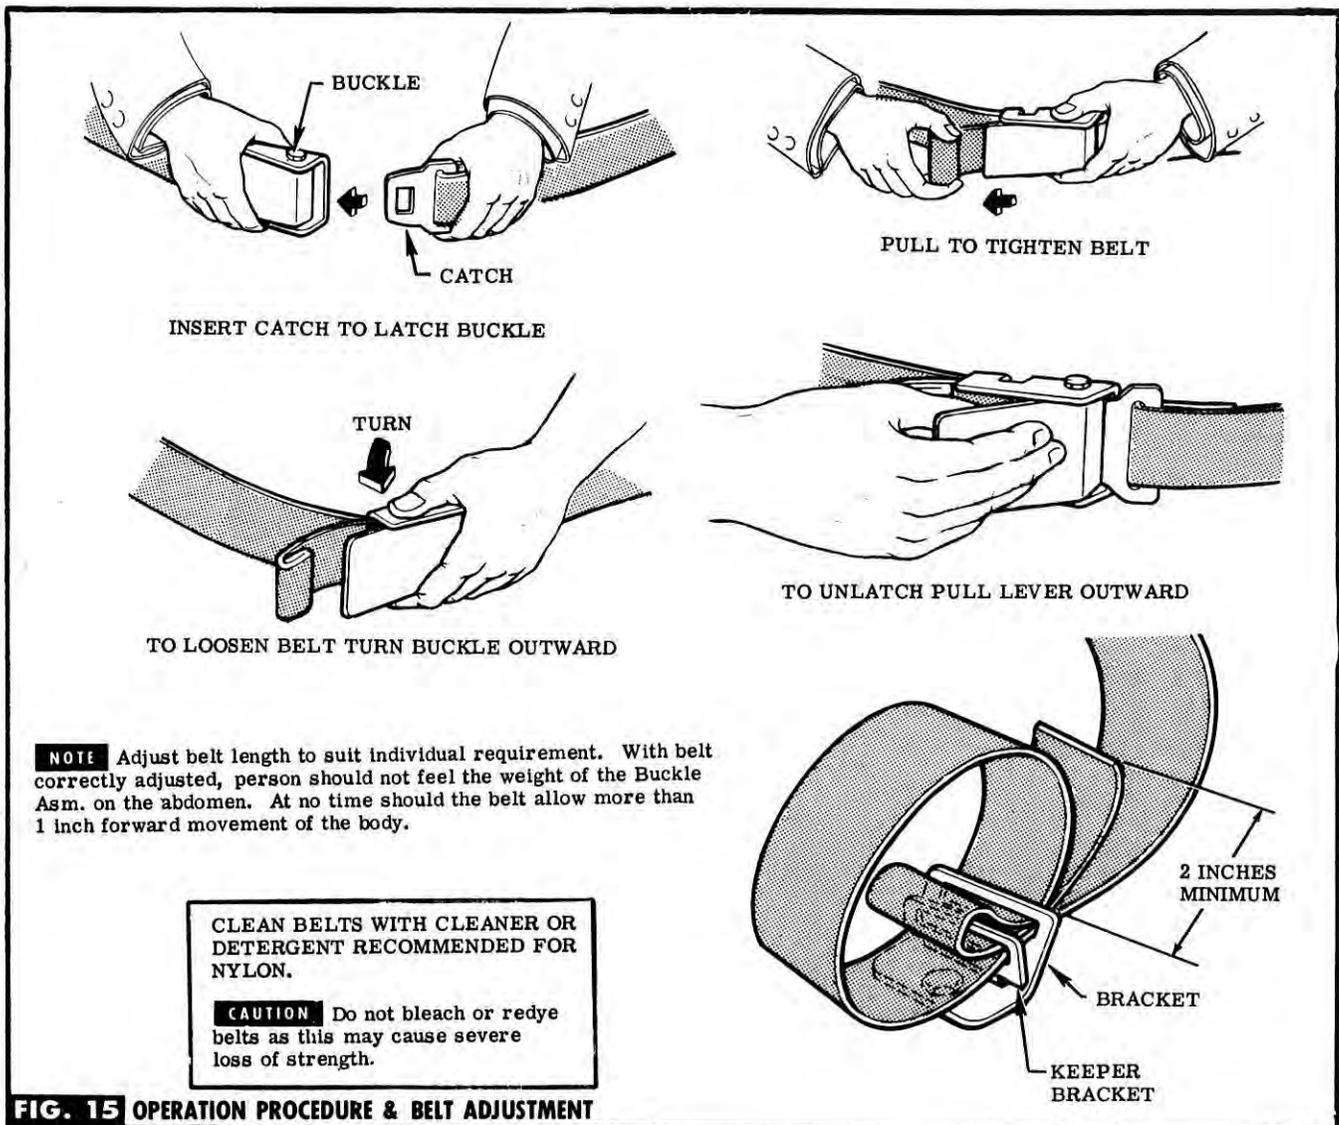

FIG. 15 OPERATION PROCEDURE & BELT ADJUSTMENT
STEP 5 ATTACH SEAT BELTS TO BRACKET & ADJUST TO PROPER LENGTH. SEE VIEW A & FIG. 15. **NOTE** If boots are to be installed, thread belt thru boot prior to attaching. Also if seat has been slit, thread thru seat prior to installing boot, or attaching to bracket.